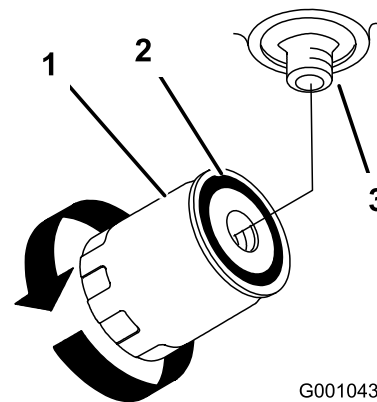

Figure 51
4. Locate filter under engine base and place drain pan under filter (Figure 51).
5. Remove the old filter and wipe the filter adapter gasket surface clean (Figure 51).
9. When the hydraulic filter is full, turn the oil filter clockwise until the rubber gasket contacts the filter adapter, then tighten the filter an additional 1/2 turn (Figure 51).